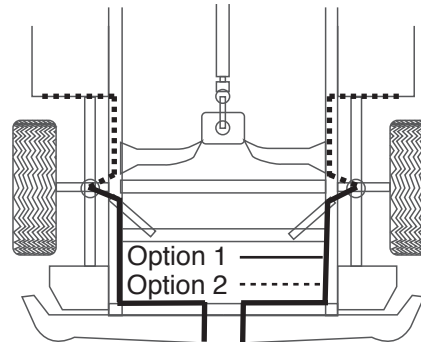

fig. 12
6. Route the air line along the frame to the air fitting on the air spring (fig. 12). Keep AT LEAST 6" of clearance between the air line and heat sources, such as the exhaust pipes, muffler, or catalytic converter. Avoid sharp bends and edges. Use the plastic tie straps to secure the air line to fixed, non-moving points along the chassis. Be sure that the tie straps are tight, but do not pinch the air line. Leave at least 2" of slack to allow for any movement that might pull on the air line.